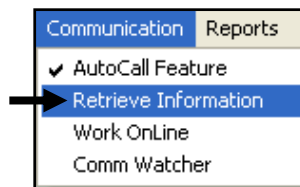
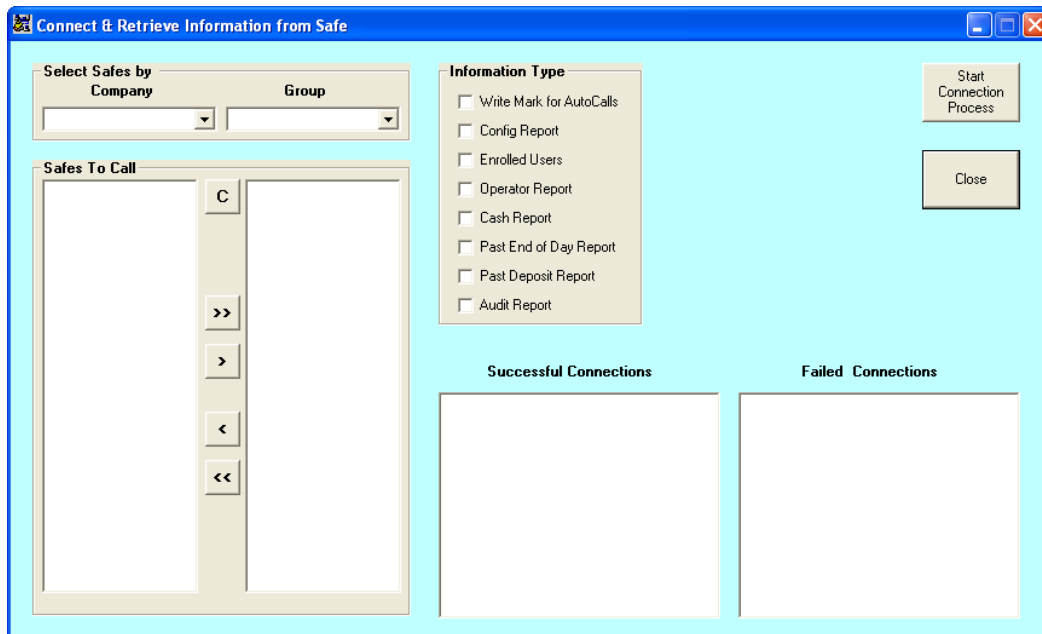

Fig. 8.2
Fig. 8.3
- 1) Select the **Communication Menu** and then select **Retrieve Information** (Fig. 8.2). The Connect and Retrieve Menu will then appear (Fig. 8.3)